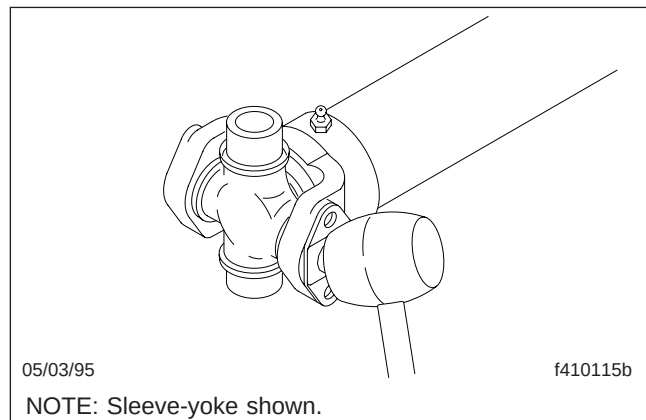

Fig. 9, Seating a U-Joint Bearing Cup in a Full-Round Yoke
- 3.3 By hand, press the bearing assembly flush with the face of the yoke. If the bearing assembly binds in the cross-hole, tap the *center* of the bearing plate with a rubber or rawhide mallet; do not tap the outer edges of the bearing plate. See Fig. 9.